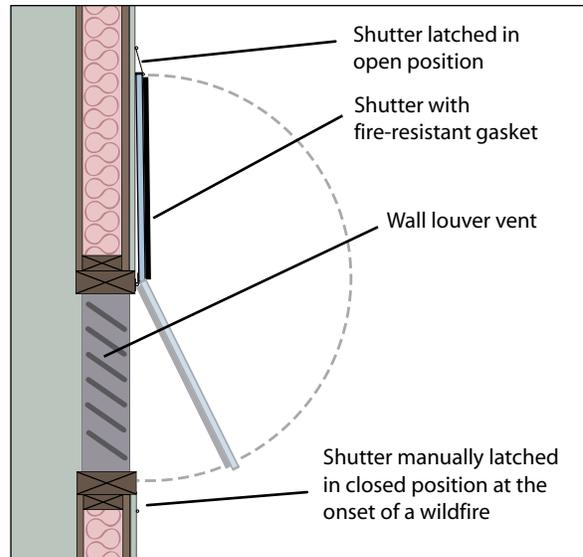

Figure 3. A hinged shutter.
- **Gable-end vent.** Instead of using ridge vents, specify and install gable-end vents with specially designed metal shutters. When a wildfire threatens, the shutters can be placed over the gable-end vent. A hinged shutter that can be latched in an open or closed position is recommended (see Figure 3). A detachable shutter design can be used, but when the shutters are needed,